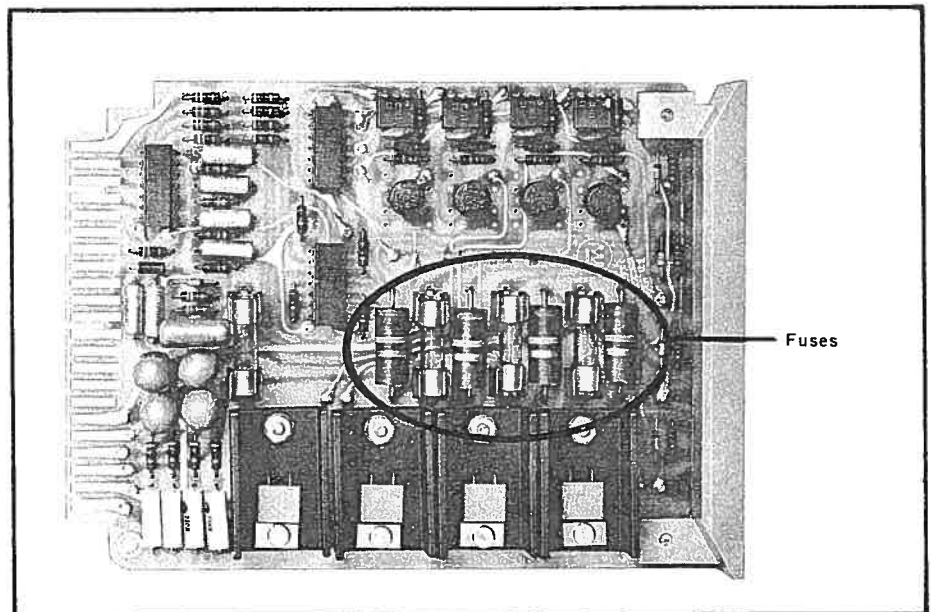

Figure 1-4: Built-in fuse protection on power output modules.
4. Each 300 Series power output module is protected with a built-in fuse that is coordinated to guard against improper wiring of the output or improper external fusing. See Figure 1-4.